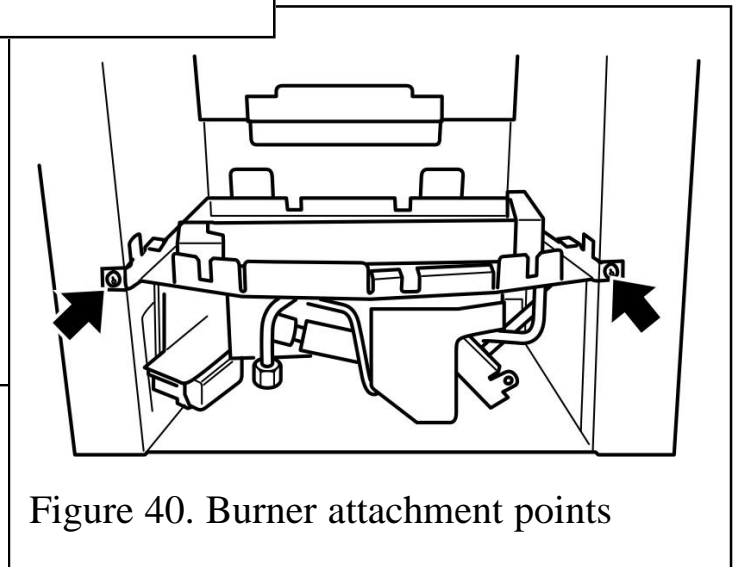

Figure 40. Burner attachment points
4. Detach the burner unit from the hotbox by removing two screws (See figure 40).